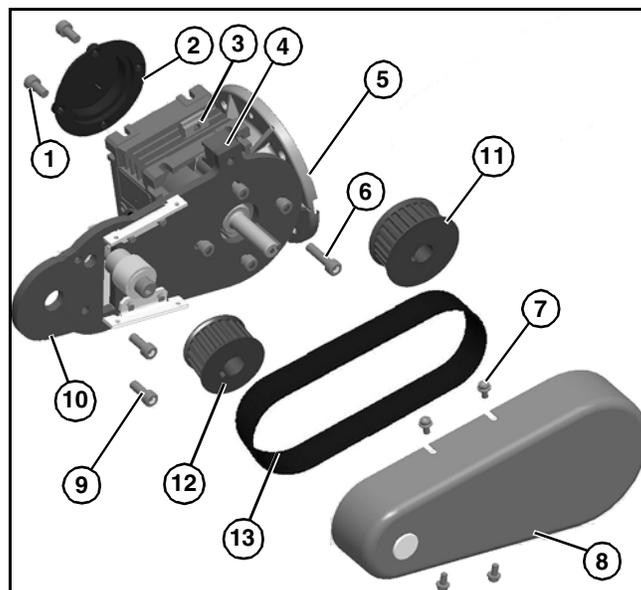

Figure 2
Type 1 mounting package shown below left (Figure 2). Type 2 mounting package shown below right (Figure 2).
1. Gather installation components (**Figure 2**)